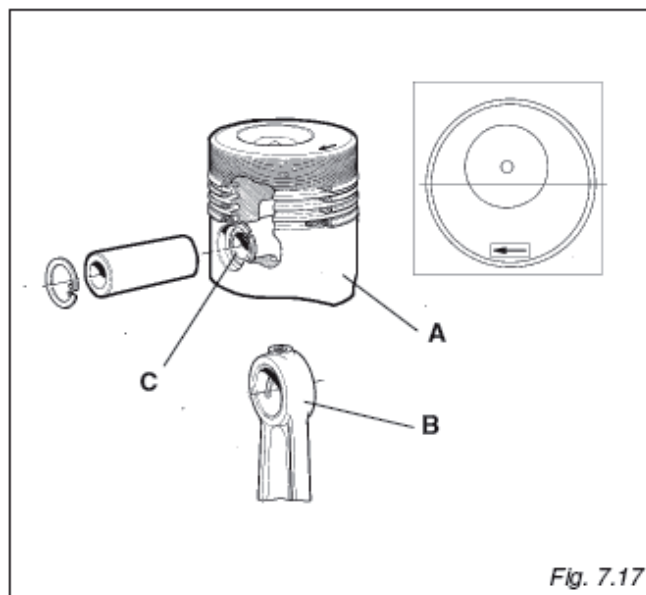

Fig. 7.17
7.11 PISTON TO CONNECTING ROD (FIG. 7.17)